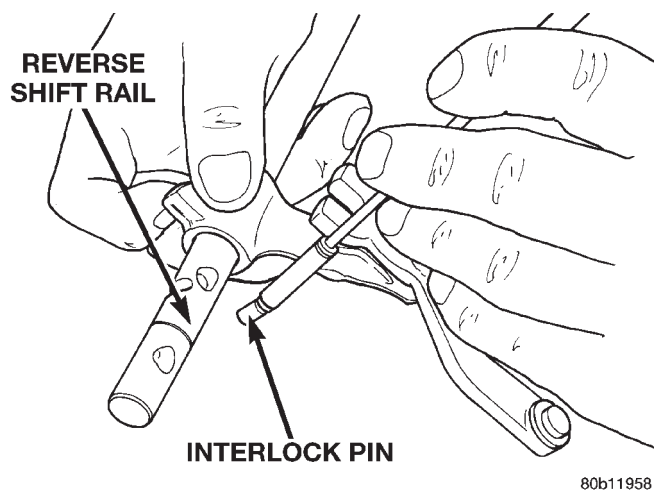

Fig. 79 Install Reverse Interlock Pin
- (7) Install the interlock pin into the reverse shift rail (Fig. 79).